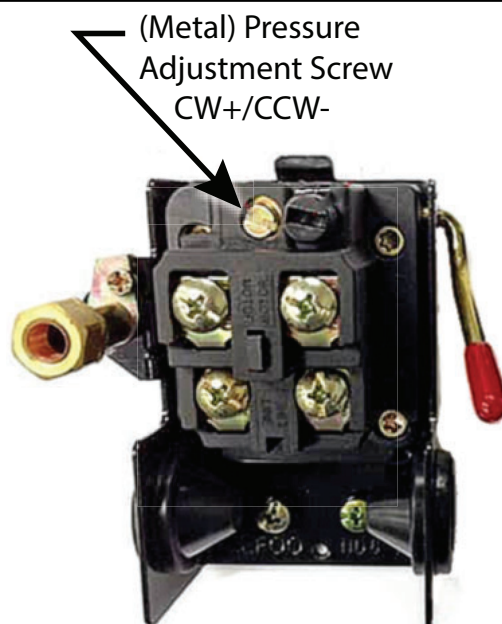

Figure 5-5: Location of cut-in/cut-out adjustment screw
5. Adjust screw shown in *Figure 5-5* to change minimum and maximum tank pressure settings.